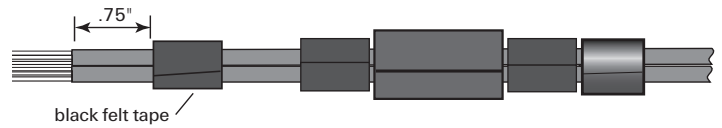

Figure 6: A Closures
6. Measure from the end of the ring cut and wrap all cables with two layers of black felt tape, referring to Figure 6 for dimensions. Note that the position of the tape is different for FOSC 450 B, BS, C, and D closures than for FOSC 450 A and FOSC 600 closures.